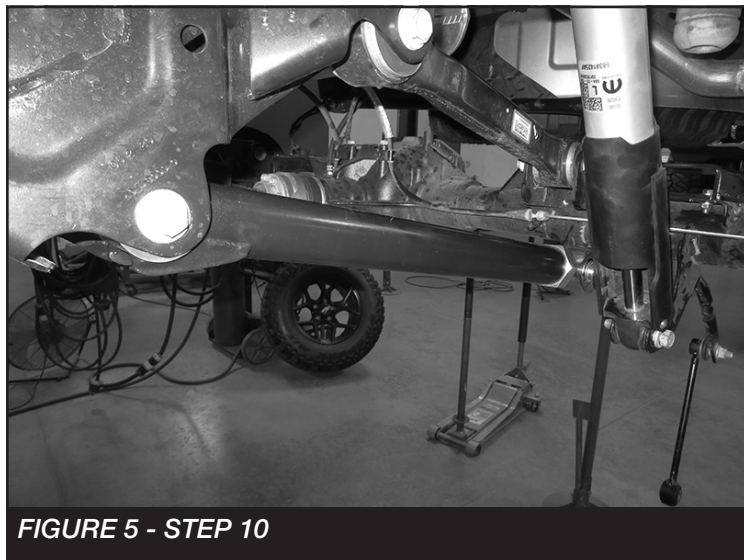

FIGURE 5 - STEP 10
10. Install the new Fabtech lower link using the supplied FT50594 (Misalignments) and factory hardware like shown below. The joint end will mount on the axle side. Torque to 160 ft-lbs. **SEE FIGURE 5** Refer to diagram at the end of instructions for FT50771 preset measurements.